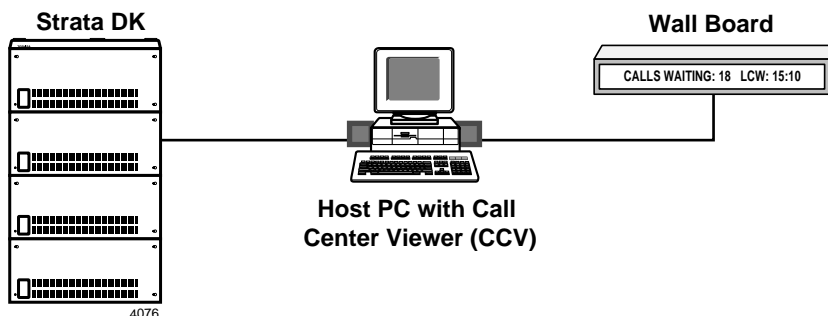

Figure 11-17 Connecting Strata DK Directly to a CCV PC with Optional Wall Board
- Connect the Strata DK280 or DK424 MIS port (RSIU/RSIS, RSSU, PIOU, or PIOUS PCB) to the COM port of the host computer with an RS-232 cable. See Figure 11-17.